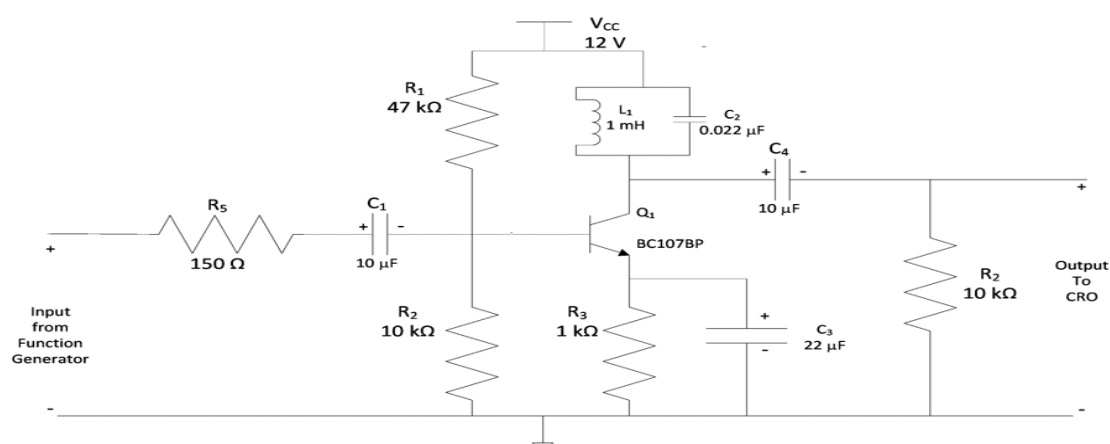

Figure5.1: Single tuned amplifier
5.1 Simulate a single tuned amplifier circuit as shown in Figure 5.1 using MULTISIM software. Draw and analyze the waveform for gain versus frequency of single tuned amplifier.
1. For the circuit shown in Figure5.1 if the $L1 = 1\text{ mH}$ and $C2 = 500\text{ pF}$ the find (a) the resonant frequency and (d) d.c load resistance and a.c load resistance.